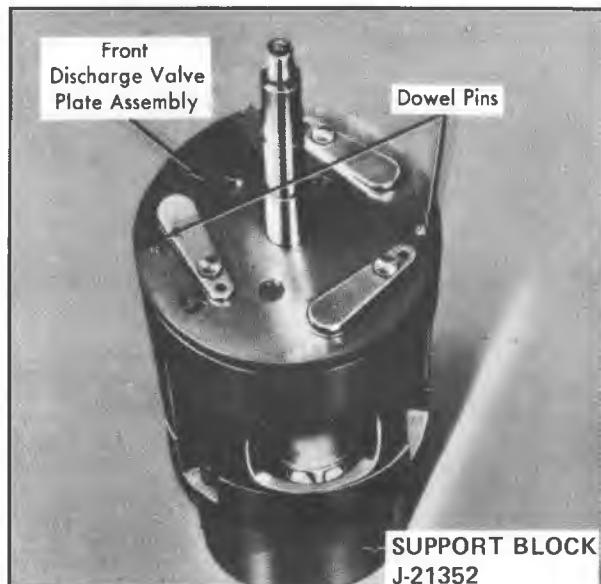

Fig. 58--Installing Front Discharge Valve Plate
5. Install front discharge valve plate assembly, aligning holes with dowel pins and proper openings in front suction reed plate (Fig. 58).